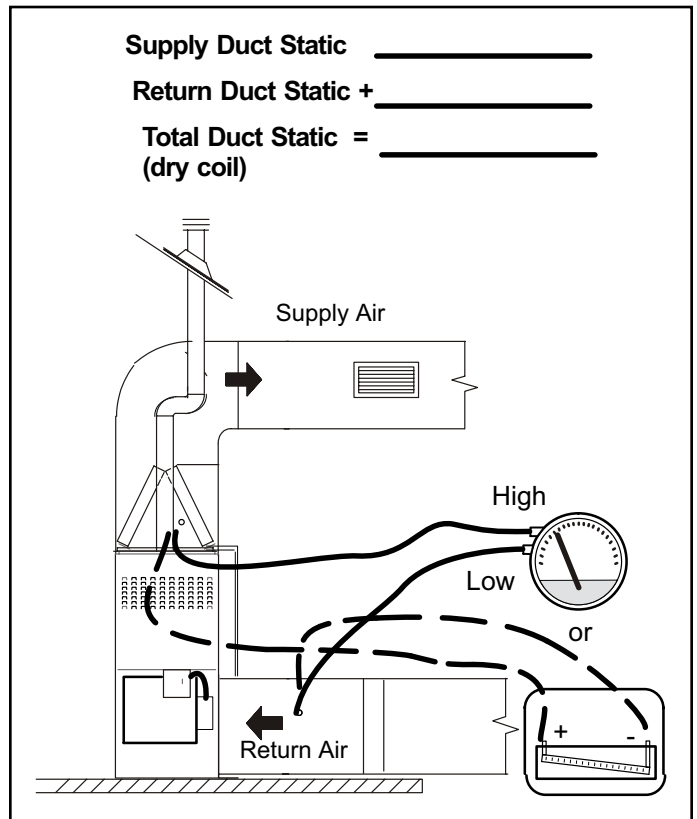

Figure 21. External Static Pressure
1. Tap locations shown in Figure 21.